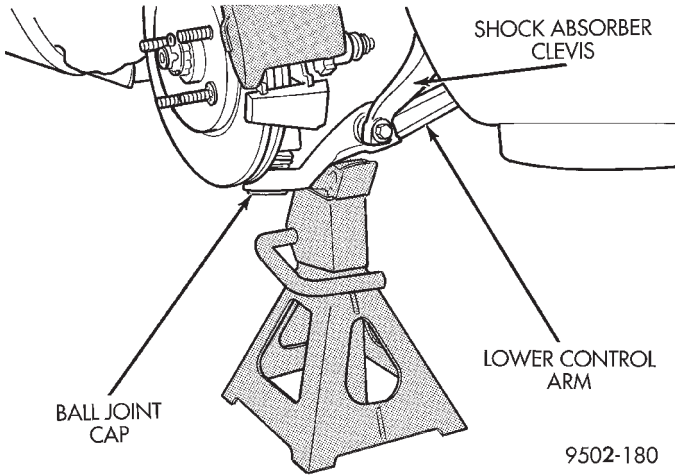

Fig. 10 Lower Control Arm Correctly Supported By Jack Stand
CAUTION: When supporting lower control arm with jack stand, do not position jack stand under the ball joint cap on the lower control arm. Position in area of lower control arm shown in (Fig. 10).
(7) Lower vehicle to the ground with a jack stand positioned under the lower control arm (Fig. 10). Continue to lower vehicle so the total weight of the vehicle is supported by the jack stand and lower control arm.
(8) Tighten the shock absorber clevis to lower control arm bushing thru-bolt nut to a torque of 88 N·m (65 ft. lbs.).
(9) Tighten the wheel mounting stud nuts in proper sequence until all nuts are torqued to half specification. Then repeat the tightening sequence to the full specified torque of 135 N·m (100 ft. lbs.).